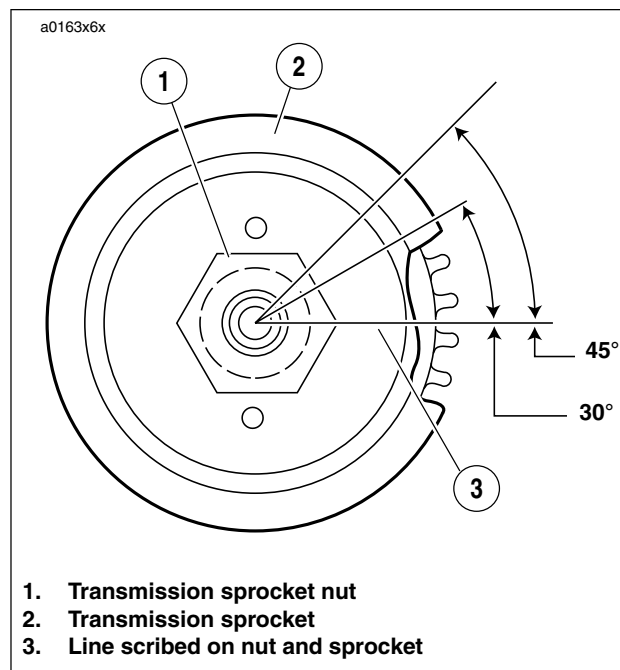

Figure 6-96. Aligning Transmission Sprocket
7. See Figure 6-96. Scribe a line on the transmission sprocket nut and continue the line on the transmission sprocket as shown.